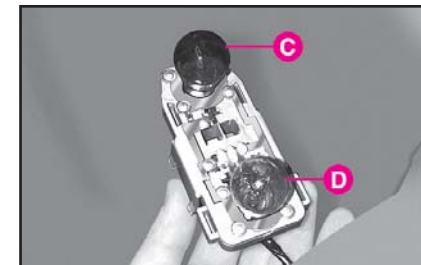

fig. 20
3) Remove the bulbs by pushing them lightly and turning (**fig. 20**).
Types of bulbs (**fig. 20**):